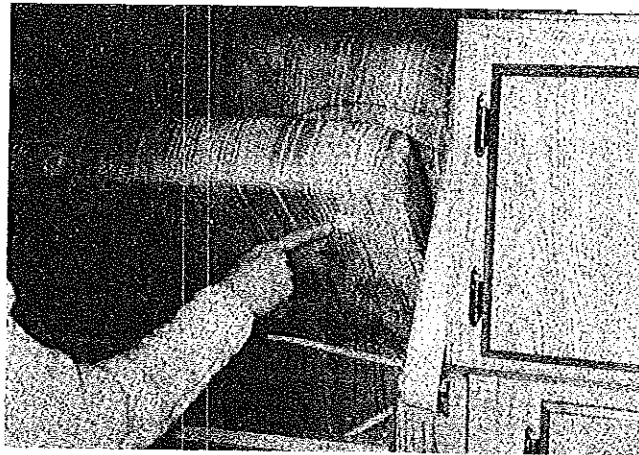

Figure 28
31a. On models with a rear dinette, lift the backrest off the dinette table and slide the seat cushion inboard. Set the backrest in place against the side wall. Slide the seat cushion in place, making sure that the plastic stops are wedged firmly against the interior of the metal seat frame. (See Figure 28.)
To lift dinette seat, be certain to push the seat cushion firmly toward the backrest wall before lifting in order to prevent inadvertent damage to the plastic stops. See Figure 28.
14. Remove the backrests from their positions. Slide the seat cushions outboard and place the backrests, cushion side down, on the stored dinette table. See Figure 28.